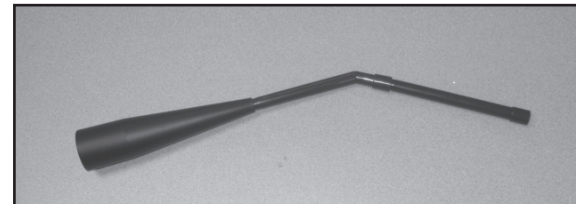

Figure 18.4
- Assemble the crevice tool from the micro cleaning kit to attach to a Shop Vac. **Figure 18.4**